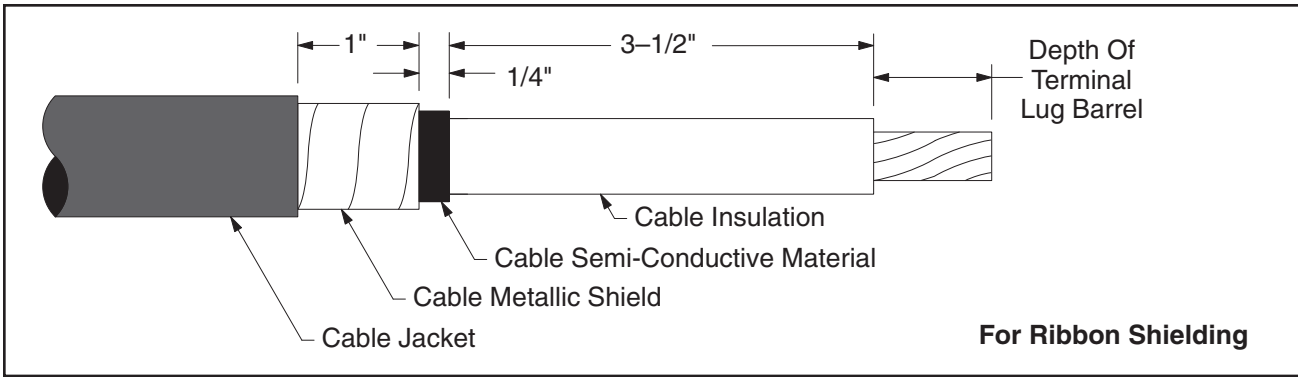

Figure 7a
For Ribbon Shielded Cable see *Figures 7a, 8a and 9a*.
- 5.5 Remove cable insulation for length recommended by terminal lug manufacturer; if no information is available, remove for depth of lug barrel. See *Figure 7a, 7b and 7c*, depending on type of cable shielding.